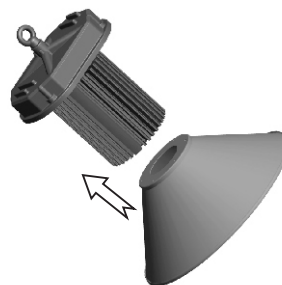

Fig.2
2. Place the reflector so the screw holes correspond to the light body and tighten the body mounting screws (Fig.2)